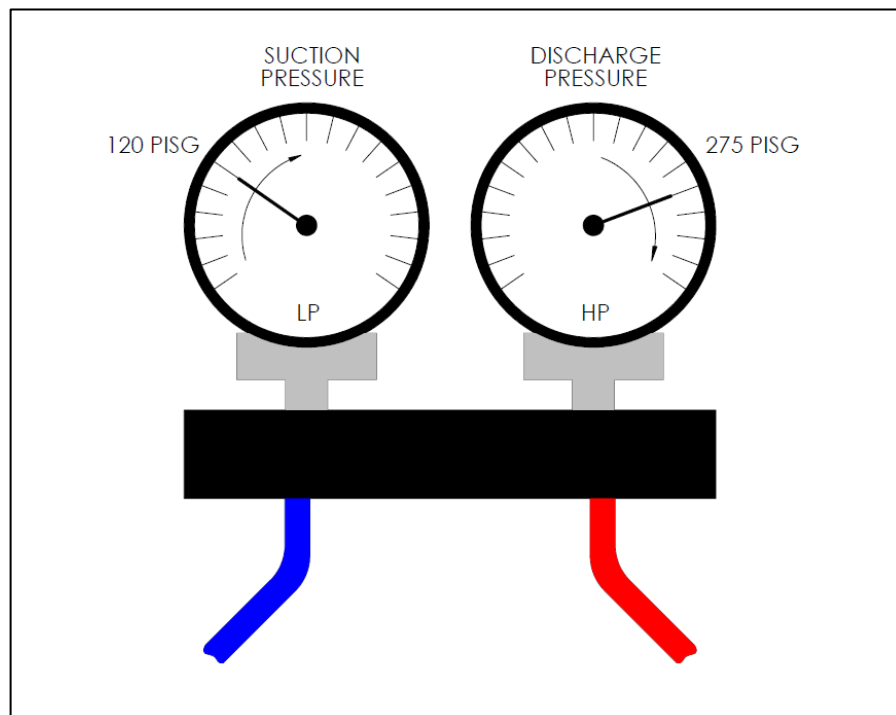

Figure 36. Minimum Suction and Discharge Pressures
10. **When the suction pressure is at least 120 psig and the INLINE sight glass shows refrigerant flow as clear or having a trickle of bubbles, the next step is to monitor the discharge pressure until it rises to 275 psig or greater, as shown in Figure 36. When these conditions are met, proceed to step 11, adjustment of the TXV superheat.**